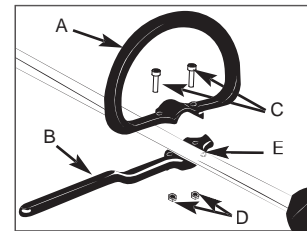

Fig. 1A
- To install handle onto unit, you will need the following components from your user kit: handle (A & B), screws (C) and nuts (D). (Fig. 1A)
- Install the handle (B) after the position point (E) on the shaft and tighten the 2 screws (C) and nuts (D).